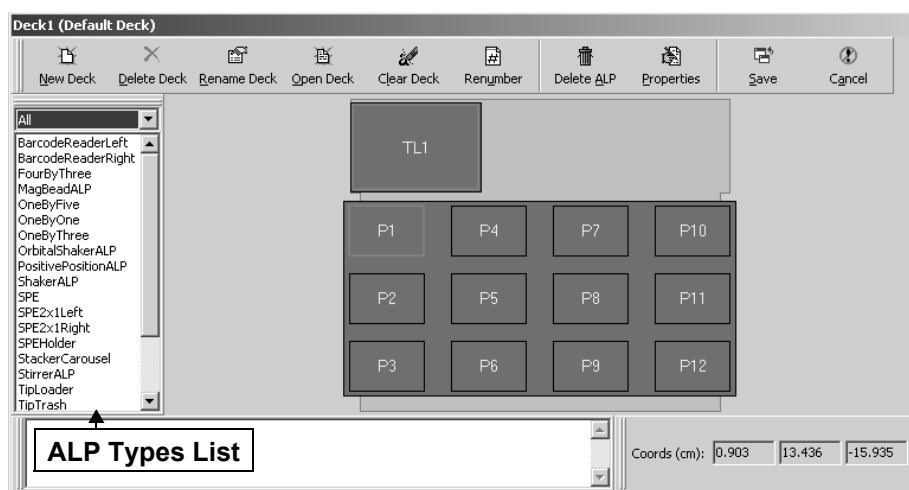

Figure 3-7. Deck Editor
1. Choose **Instrument>Deck Editor**. Deck Editor appears (Figure 3-7).